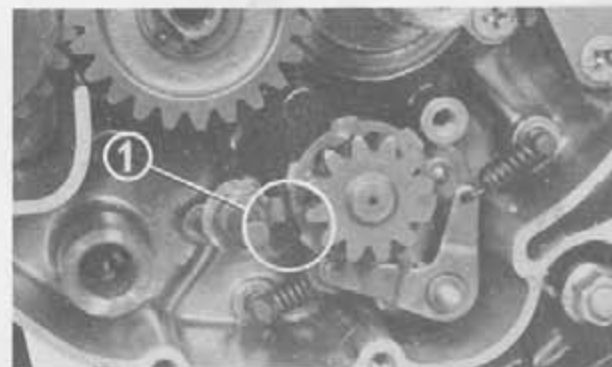

Fig. 3-49 (1) Punch mark on drum shifter
4. After assembling the drum shifter, install it in place with the punch mark facing in the direction shown in Fig. 3-49.